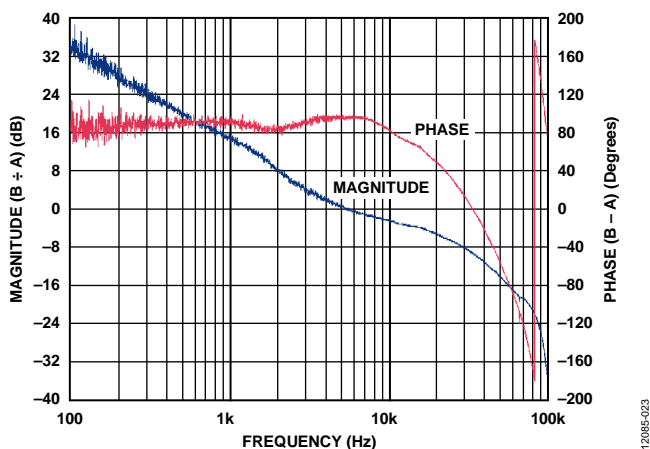

Figure 23. Control Loop Test Using an AP300 Loop Analyzer
5. Using a loop analyzer, such as an AP300, the user can verify the programmed control loop (an example is shown in Figure 23). During the control loop test, the test signal from the loop analyzer can be easily injected in JP1 of the evaluation board.